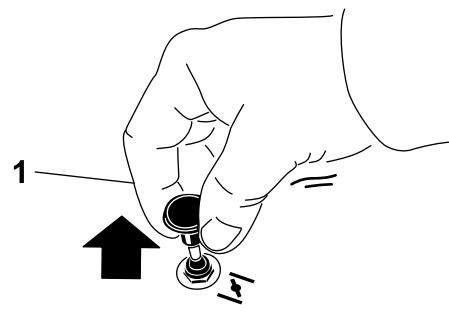

Figure 16
2. Pull up on the choke knob to engage the choke before using the ignition switch (Figure 16).
3. Push down on the choke to disengage the choke after the engine has started (Figure 16).